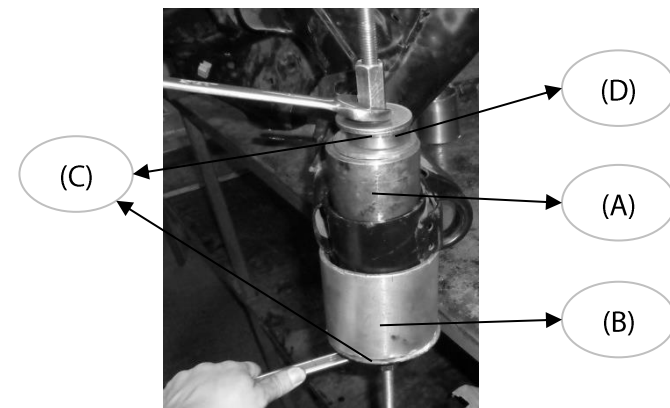

Figure 1: Tools setup for removing factory bushes (Refer to point 2).
- Set the tools up according to Figure 1 and draw the rear subframe front factory bush out. Make sure that the metal spacers are lined up correctly. Also, cover the bearing with a rag in case of failure, appropriate safety equipment must be used. You will need bigger size metal spacer to remove the rear subframe rear bush.